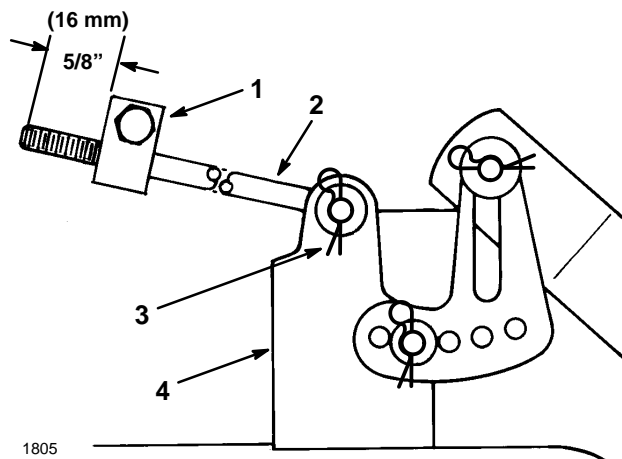

Figure 50
3. Measure the length of the rod extending out the front of the adjusting block on the sides of the chassis (Fig. 50). If the rod length is not 5/8” (16 mm), remove the hair pin cotter and washer from the end of the rod (Fig. 50), and turn the rod until the 5/8” (16 mm) dimension is obtained. Then install the end of the rod into the hole in the mower mount and secure in place with washer and hair pin cotter. Repeat procedure on the opposite side.